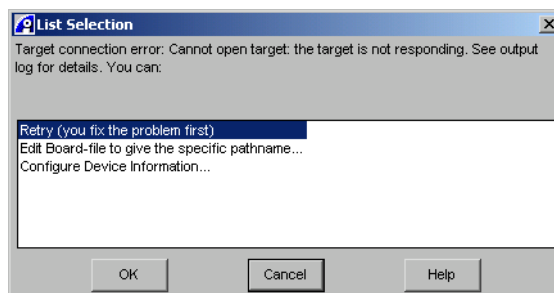

Figure 2-4 Failing to make a connection
If RealView Debugger attempts to make a connection and fails, it normally displays a list selection box to offer possible actions, shown in Figure 2-4. Some endpoint connections, such as RVI-ME, might also display their own dialog boxes or messages.
- The selection box, shown in Figure 2-4 on page 2-16, might include the entry *Display list of possible problems...*. RealView Debugger might display this option if there are known problems with solutions to apply. Selecting the option displays a message box containing a list of possible causes for the failure to connect. The text describes ways to fix the problem.